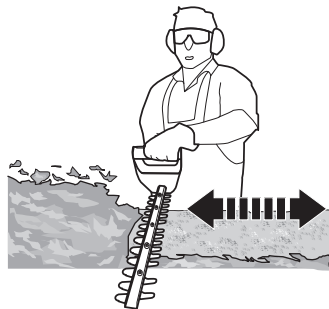

Fig. 7
9. Cut in a number of stages to achieve a better result rather than trying to cut in one go if the area being cut is particularly long (Fig. 7); smaller cuttings will allow for easy composting.